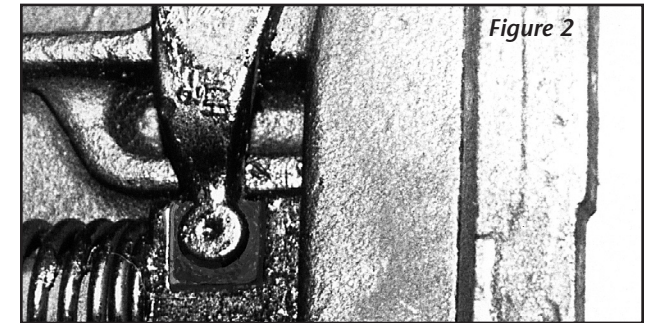

Figure 2
lever must fit freely into the slot in the plunger. If the parts do not fit together freely, it will be necessary to deburr the rounded end of the release lever (see Figure 2).
5. Install nylon bushing (24) in the release lever (15) so that the flange is between the casting and lever. Install the release arm (15) in the slot on the plunger (see Figure 2), install washer (13) on cap screw (12) and insert through release lever (15) and screw into casting.